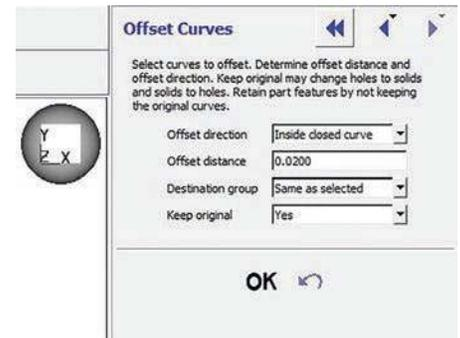

Figure 7: Offset the outer perimeter contour using the Offset Curves menu options.
STEP 9: From the **Edit** menu, select **Offset Curves** to offset the outer perimeter model contour inward. Change the **Offset direction** to **Inside closed curve**. Enter the desired value into the **Offset distance** field (in this case: 0.0200). Change the **Destination group** to **Same as selected**. Change **Keep original** to **Yes** (Figure 7).